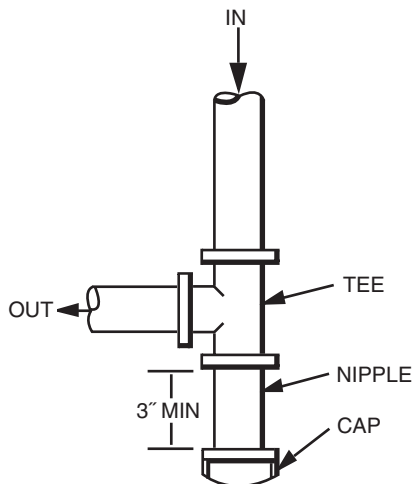

Fig. 8—Sediment Trap
4. Install sediment trap in riser leading to heating section (See Fig. 8). This drip leg functions as a trap for dirt and condensate.